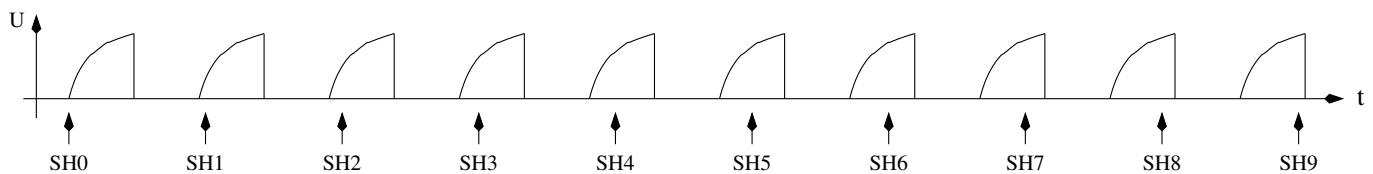

Figure 5.30. Scanning of a voltage curve with the sampling technique
The radio amateur Pieter-Tjerk (PA3FWM) has integrated the measurement capability for very small capacity values ( $< 100\text{pF}$ ) with the sampling technique. The conversion period of the ADC is in fact too long for sampling a fast signal directly. But the voltage of the input signal is hold at a specified time of the conversion cycle, the Sample and Hold (SH) time. The ADC need 13 clock cycles for a total conversion and the ADC clock is build by dividing the processor clock by 128 or 64. The input voltage is fixed at exactly ADC clock number 1.5 for continuous cycles. If the input signal can be generated again and again, we can shift the sample time of the ADC from one to the next signal repetition, so that we get a sample sequence of the fast signal. A normal ADC cycle takes  $13 \times 64 = 832$  clock cycles with a 8 MHz processor clock. If we repeat the input signal with a 831 clock cycle, a uninterrupted ADC (free run mode) would sample the signal one processor clock tick later for every following signal repetition. We must make sure with this method, that the first ADC sampling of the signal is done at the requested starting time. The time of the following ADC samples would be shifted by one processor clock tic later for every next signal repetition. If the signal can be repeated exactly, the combined signal of many periods is the same, which would be sampled and converted directly with a ADC running with the processor clock (8 MHz). Figure 5.30 shows the principle of sampling a ten times repeated signal to get 10 samples (SH0 - SH9). In reality the relativ time shift of successive samples is much smaller than shown here.